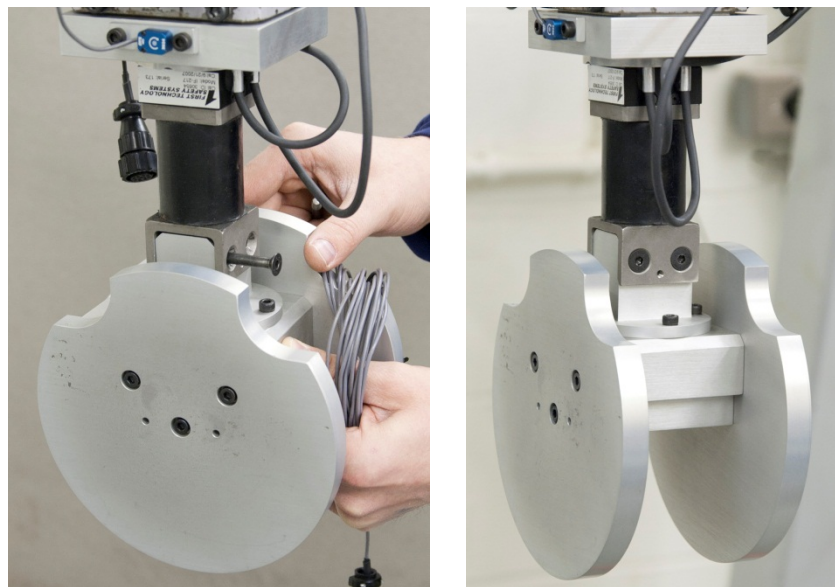
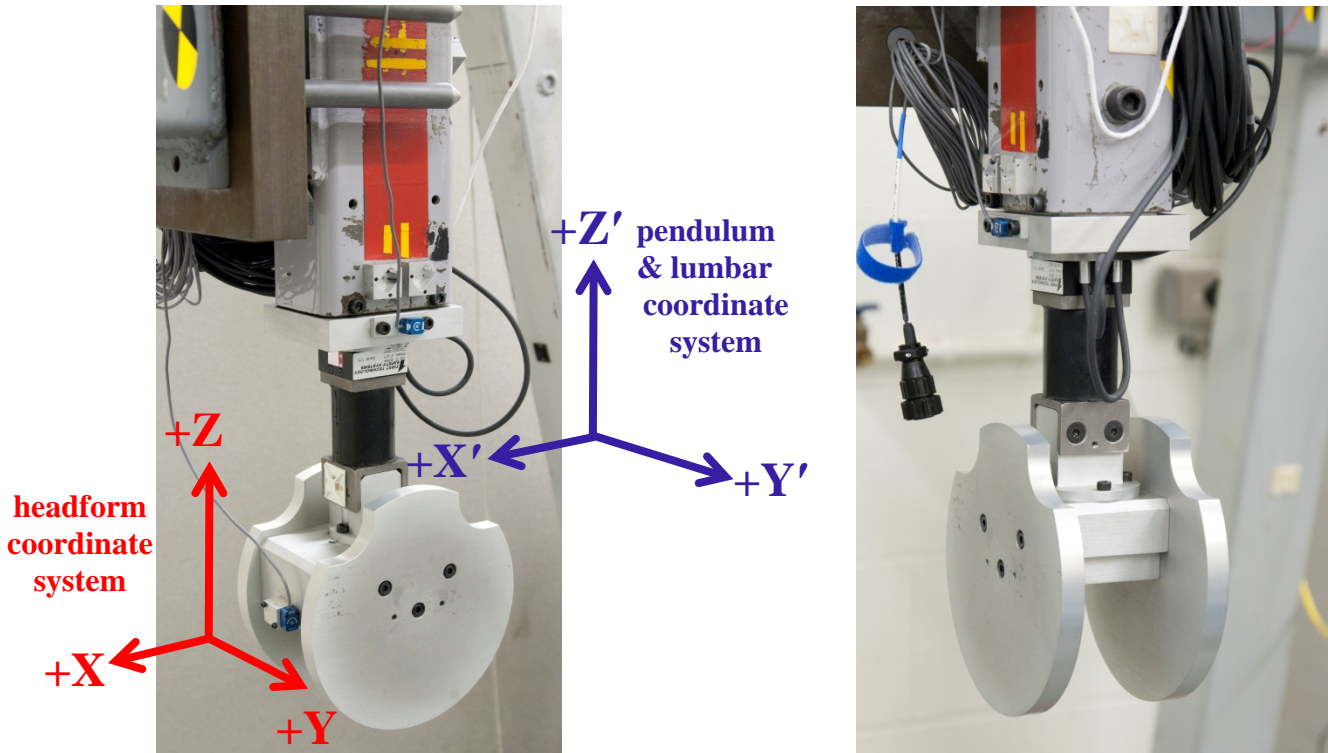

Figure 147. Installing headform to lumbar spine
Figure 148. Final setup for the Q3s lumbar spine flexion qualification test
- Install the interface plate to the bottom of the pendulum using four (4) M6 x 15 SHCS (Figure 147 and Figure 148)
- Install accelerometer to the pendulum (Figure 148).